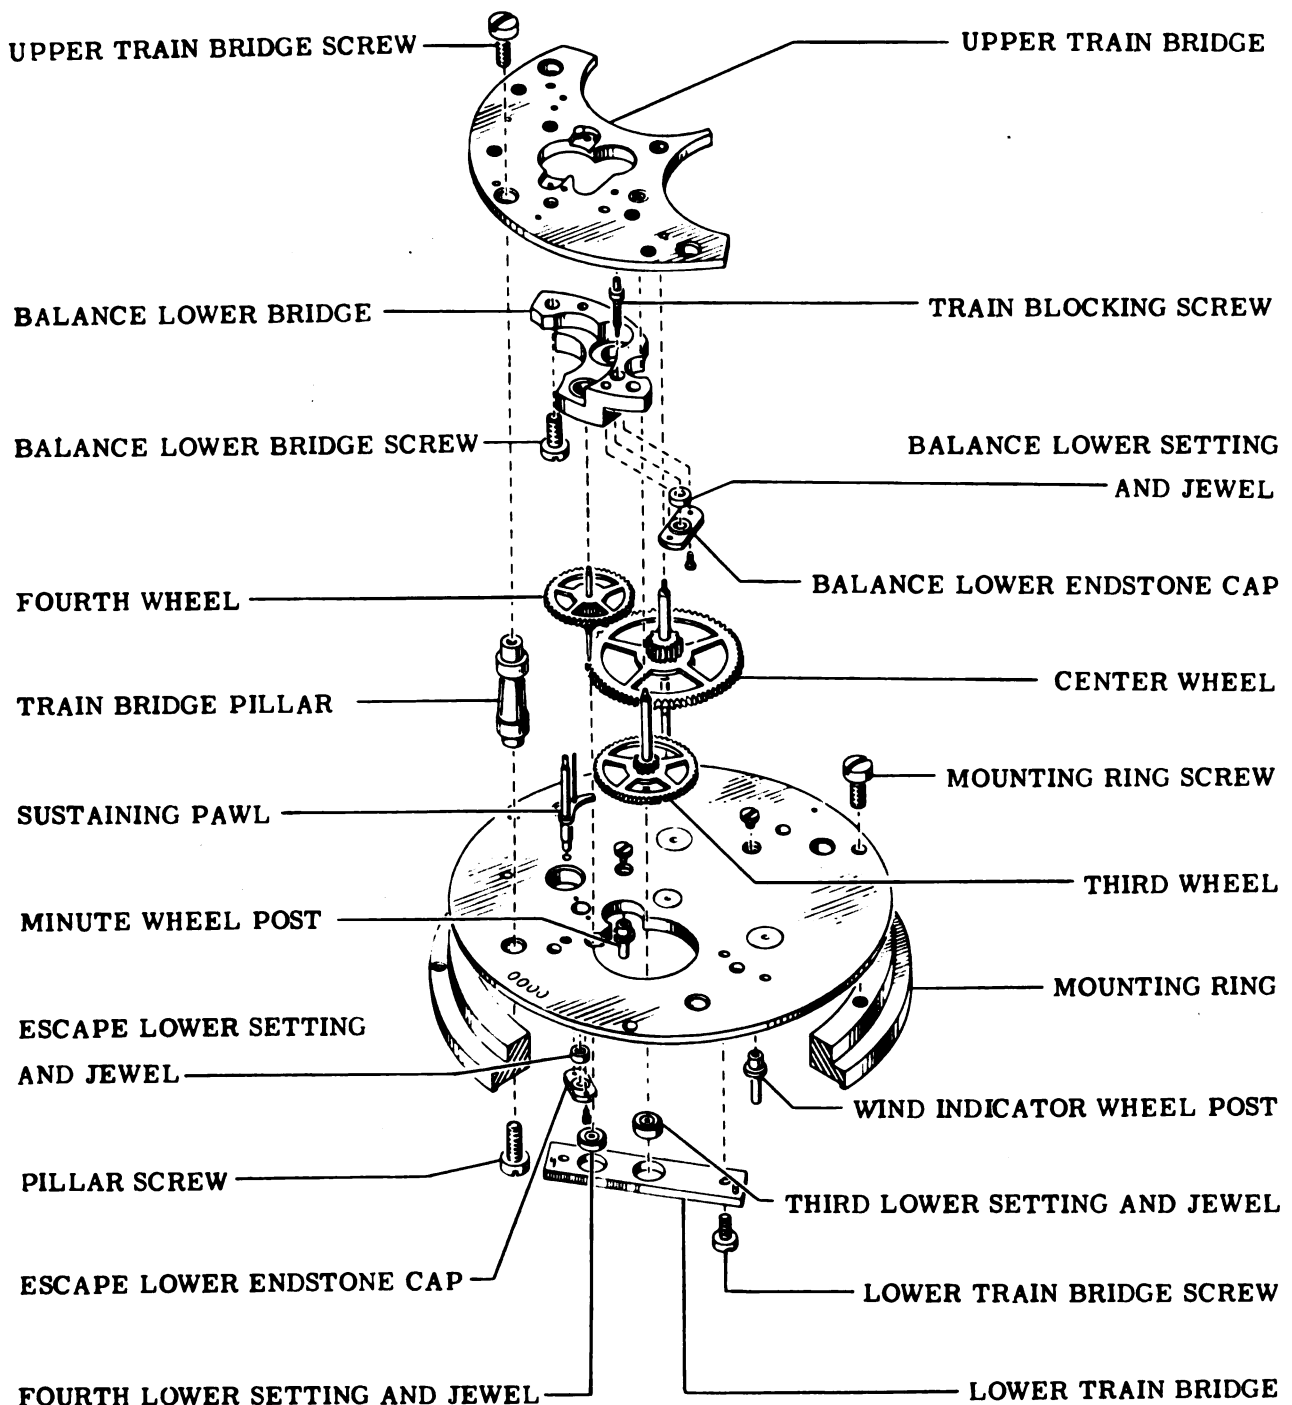
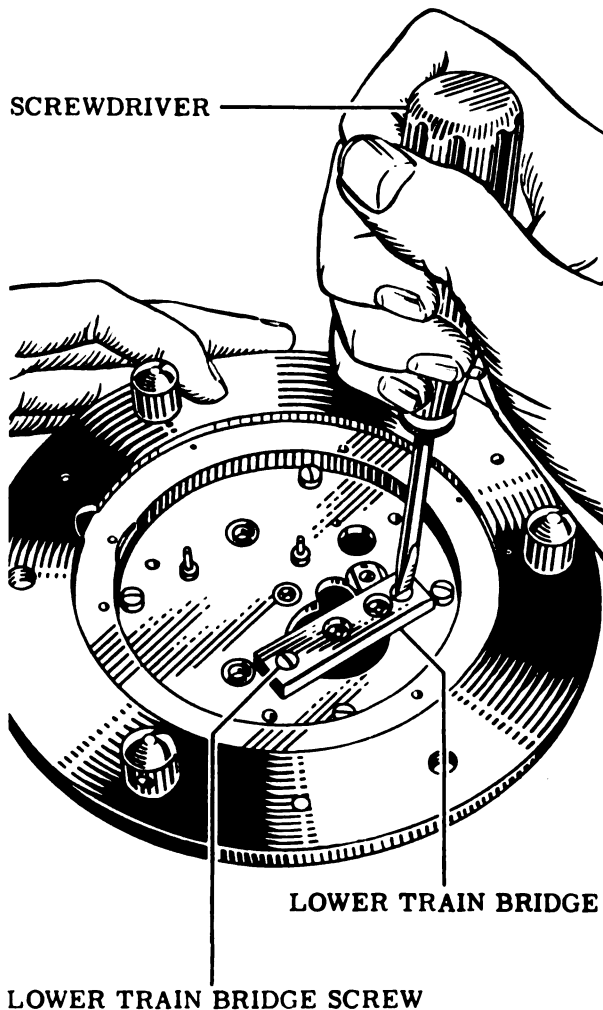

Figure 67
Figure 68
1. (See notes following Operation 15 and Operation 34.) Place mounting ring on work ring, Tool No. 98. Place pillar plate on mounting ring. Screw in three mounting ring screws, using shell screwdriver, Tool No. 96. Fig. 67 shows the mounting ring in its position relative to the pillar plate.
2. Turn work ring over and insert the minute wheel post and the wind indicator wheel post, both shown in Fig. 67.
3. Hold posts in place with tissue, turn over and screw in two post screws. Screws are illustrated in Fig. 67.
4. Turn movement over and install barrel bridge pillar. Fasten screw from below. Use Tool No. 96. Fig. 67 shows a train bridge pillar, similar to and opposite in location to the barrel bridge pillar.
5. Install three pillars for upper train bridge. Fasten screws, using shell screwdriver. Use Tool No. 96. See Fig. 67.
6. Place the escape lower endstone cap (number 3) in its recess and screw in the two endstone cap screws with screwdriver, Tool No. 90. Refer to Fig. 67 for proper location of parts.
7. Install the lower train bridge. Screw in the two lower train bridge screws. Tighten screws with large screwdriver. Use Tool No. 94. See Fig. 67 and Fig. 68.
8. Turn movement over and place third wheel, center wheel, and fourth wheel in their pivot holes. See Fig. 67.
9. Install the sustaining pawl. Make reference to Fig. 67.
10. Screw the train blocking screw into the balance lower bridge with screwdriver (Tool No. 84), so that the cone part of the screw is below flush with the top surface of the balance lower bridge. Refer to explosion of this screw in Fig. 67.
11. Turn balance lower bridge over and install balance lower endstone cap (number 2) with two cap screws. Use Tool No. 90. Refer to Fig. 67.
13. Turn the upper train bridge over and back-up the train blocking screw to provide installation clearance. Refer to Fig. 67.
14. Place the upper train bridge over the pillar plate. Slowly and carefully lower it into position. Screw in three pillar screws for train bridge. See Fig. 67 for relative positions of the parts.